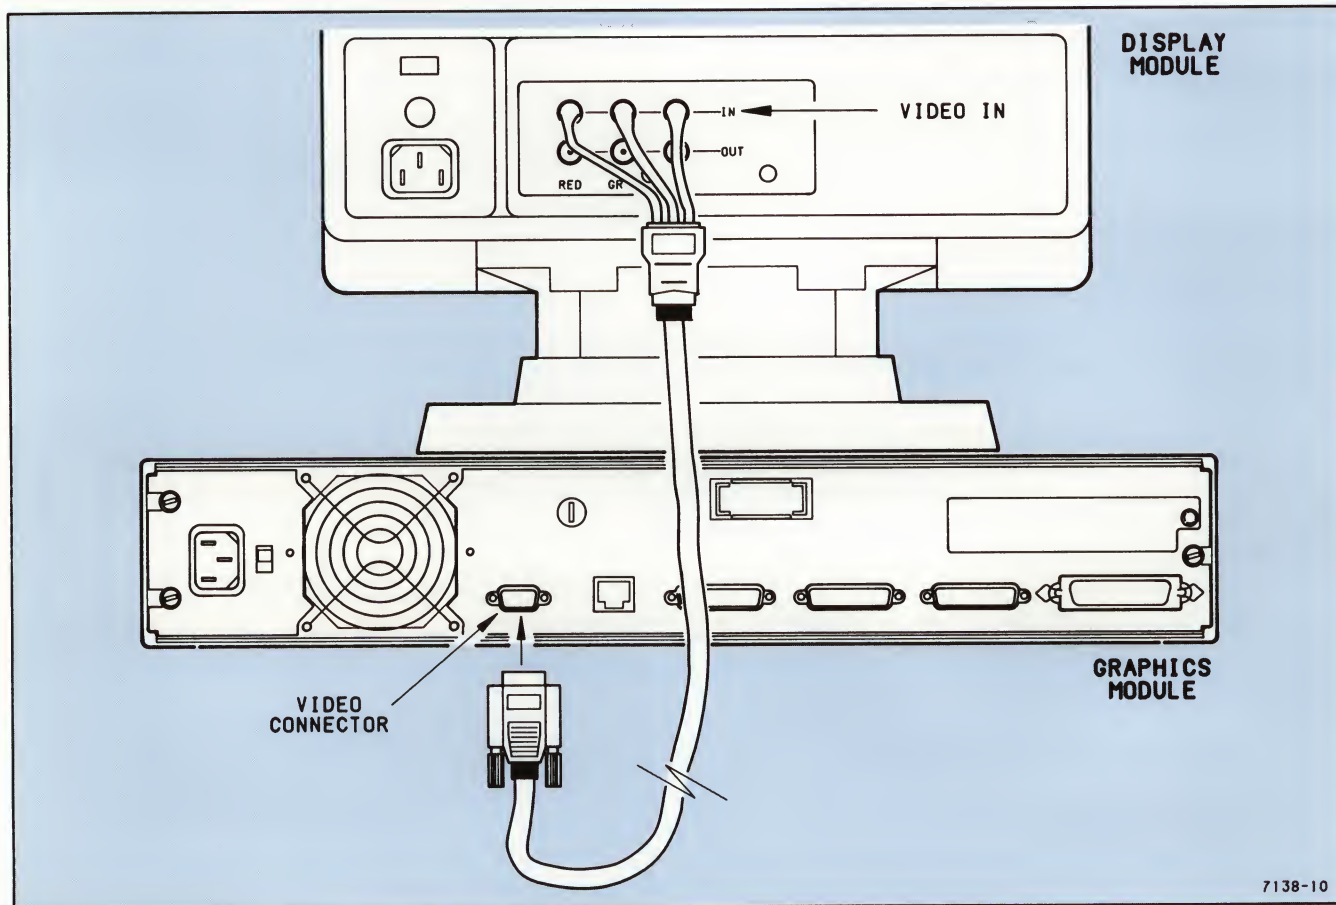

Figure 2-14. Video Cable Connection.
8. Connect the Graphics module to the Display module using the coax cable as shown in Figure 2-14. (If you are using a floor stand, remember to use the coax cable extension.) Connect one end of the cable to the Video Connector on the Graphics module and the other end to the Video In Connectors on the Display module.